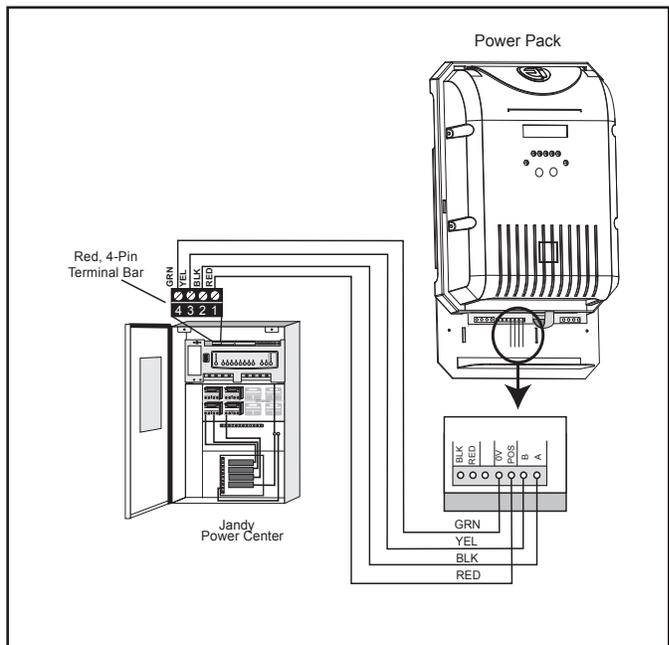

Figure 11. Communication Wiring between Power Pack and AquaLink® RS Control System or PDA Network
8. The AquaLink RS or PDA and power pack use a four (4) wire connection to communicate and can be wired up to 500 feet apart. Any outdoor rated four conductor cable, minimum 22 AWG, can be used. Locate the appropriate screw terminals on the circuit board and wire the power pack to the AquaLink RS or PDA red 4-pin terminal bar (see Figure 11).